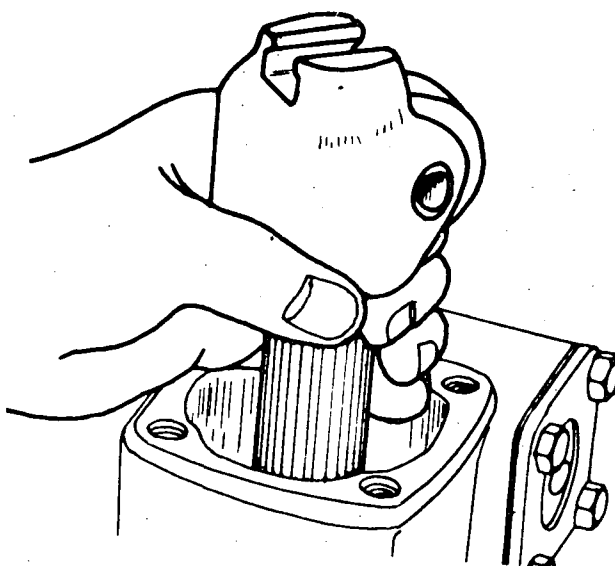

Fig. 2
- e) Centre and remove the sector (fig. 2).